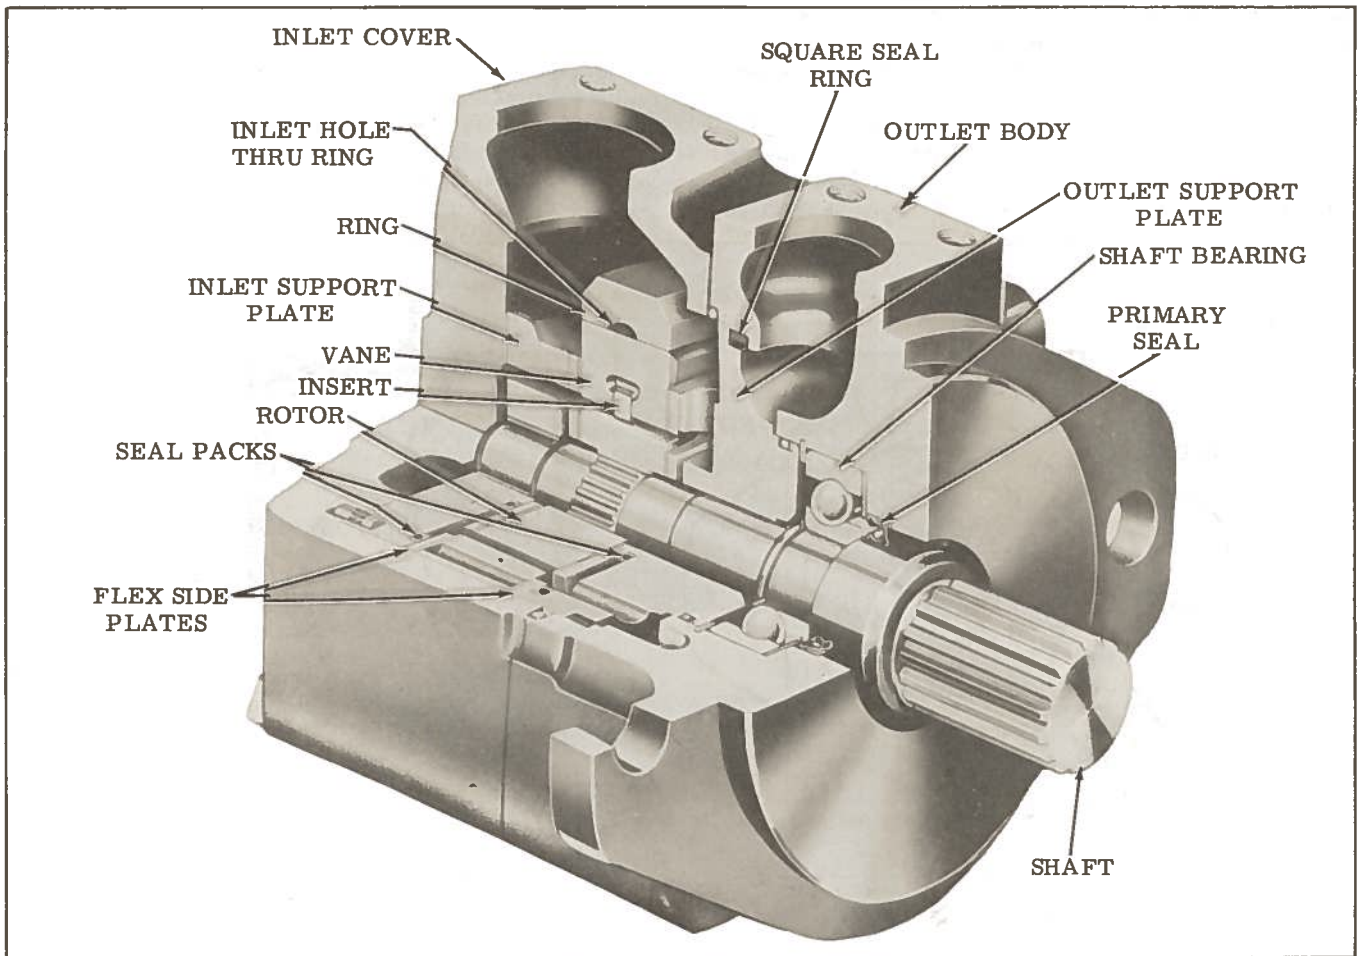

Figure 1 - Cutaway View of Typical High Performance VQ, Single Pump
1. Basic Pumps - The pump illustrated in Figure 1 is representative of all single pumps in this series. The unit consist principally of an inlet cover, outlet body, driveshaft and pumping cartridge. The princi-
An additional inlet fluid path exists through a drilled hole in the cam ring. This hole connects the inlet port directly to the inlet areas of the cam ring and provides an additional flow path for fluid to get into the cartridge. (See figure 1.)